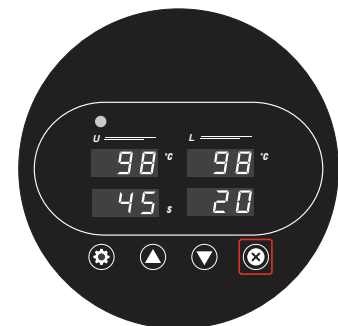

Fig. 12
4. Short Press the  button on the control panel (Fig. 12). The control panel starts showing a countdown. Tip: Long press  to clear counter.